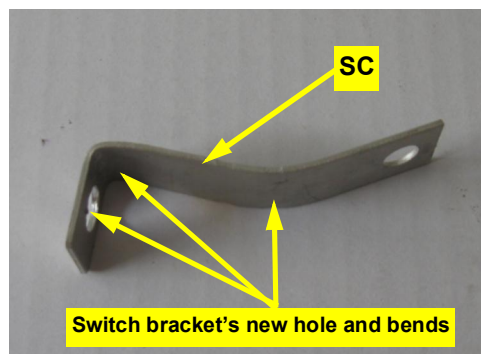

Figure 1b: Drilled and bent switch bracket
- b. Drill a 3/8" hole in switch bracket **SC** at the opposite end to the pre-drilled switch hole. Put a 90° bend in the bracket near the new hole then a curving bend in the bracket to pass by the steering shaft (so that the switch will mount on the right of the steering shaft) (Figure 1b).